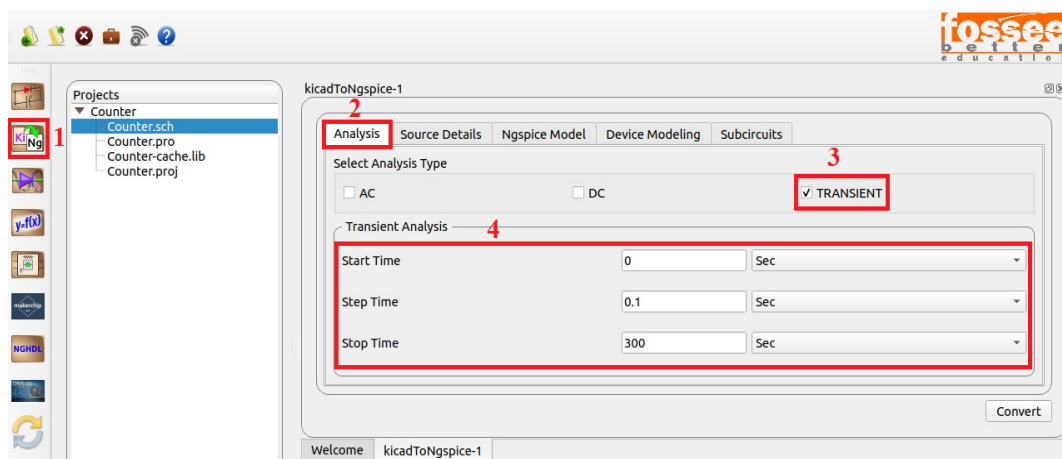

Figure 10.32: KiCad to Ngspice conversion steps
1. After creating the schematic, click on **KiCad to Ngspice Converter** icon and select the type of analysis as transient and set the start, step and stop time as shown in Fig. 10.32